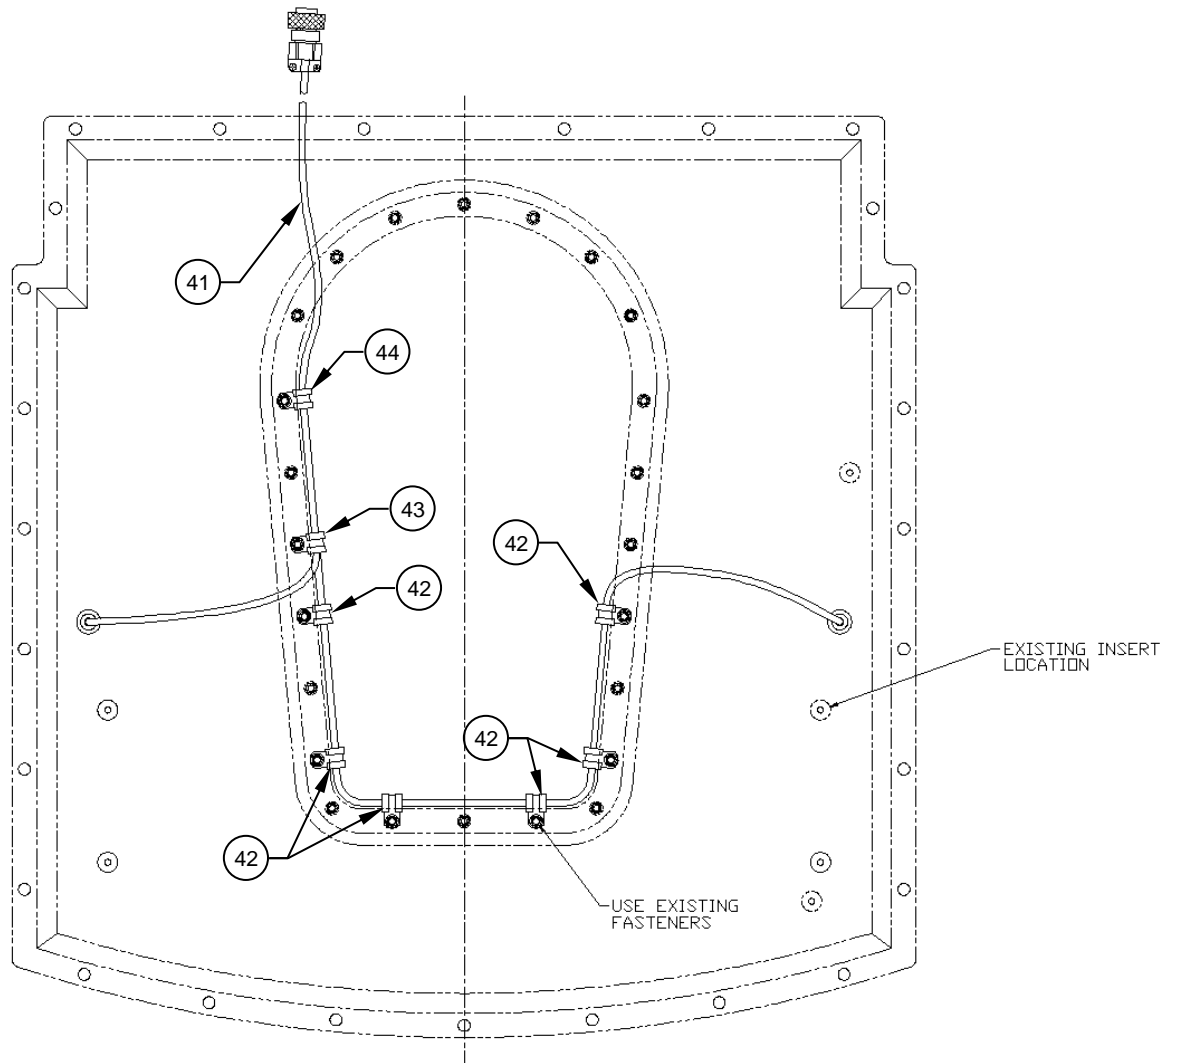

Figure 9
20. Secure the Wiring Harness (Item 41) to the top side of the inverter bay panel using the supplied clamps as shown. Reference Figure 9.